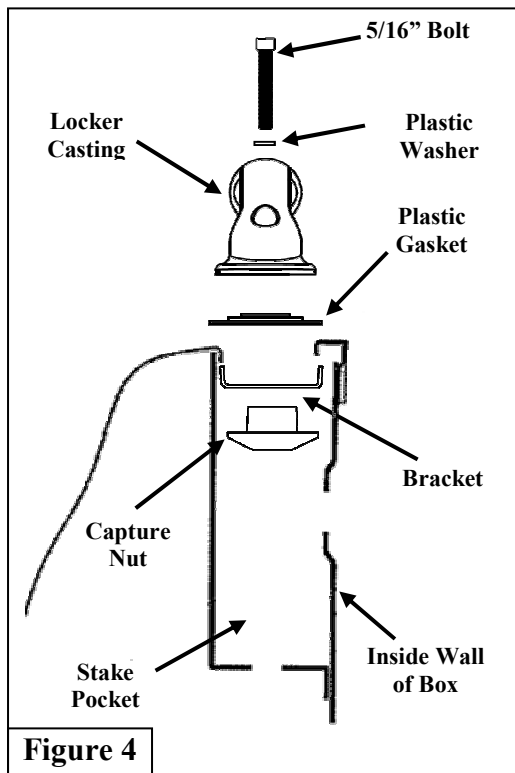
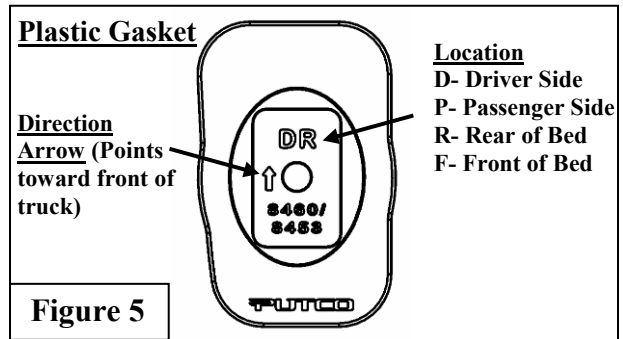

Figure 4
Figure 5
9. Assemble the mounting hardware on all the locker end castings in order as shown (**Figure 4**). **Note: Each plastic gasket goes to a specific stake pocket hole that is marked on the plastic gasket. Refer to (Figure 5)**
14. Once both locker end castings are in the holes, verify that front bracket is in the orientation shown in (Figure 4)
15. Pull straight up on the front locker end casting so that the bracket and nut maintain contact and correct positioning with the bed as shown in Figure 4.
16. Rotate the plastic gasket until it's correctly oriented. **Arrow on plastic gasket faces toward the front of truck. See (Figure 5)**